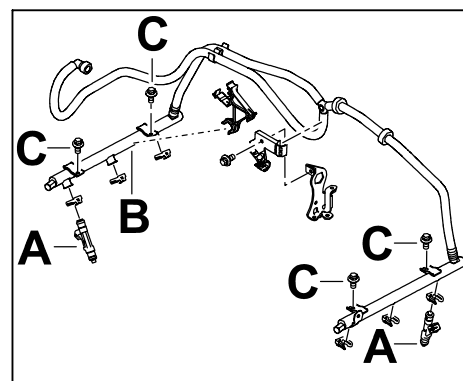

Figure 12
- 2.7.1 Replace O-rings 8.03 x 3.05 (6 x ⇒ 999.707.573.40) on all fuel injectors ⇒ *Figure 12 -A-* and clean sealing faces with a lint-free cloth.
- 2.7.2 Spray fuel injectors with silicon spray and insert fuel distributor pipe ⇒ *Figure 12 -B-* with fuel injectors fitted into the corresponding openings in the intake-air distributor.
- 2.7.3 Fit screws ⇒ *Figure 12 -C-* for fuel distributor pipe on the intake-air distributor.